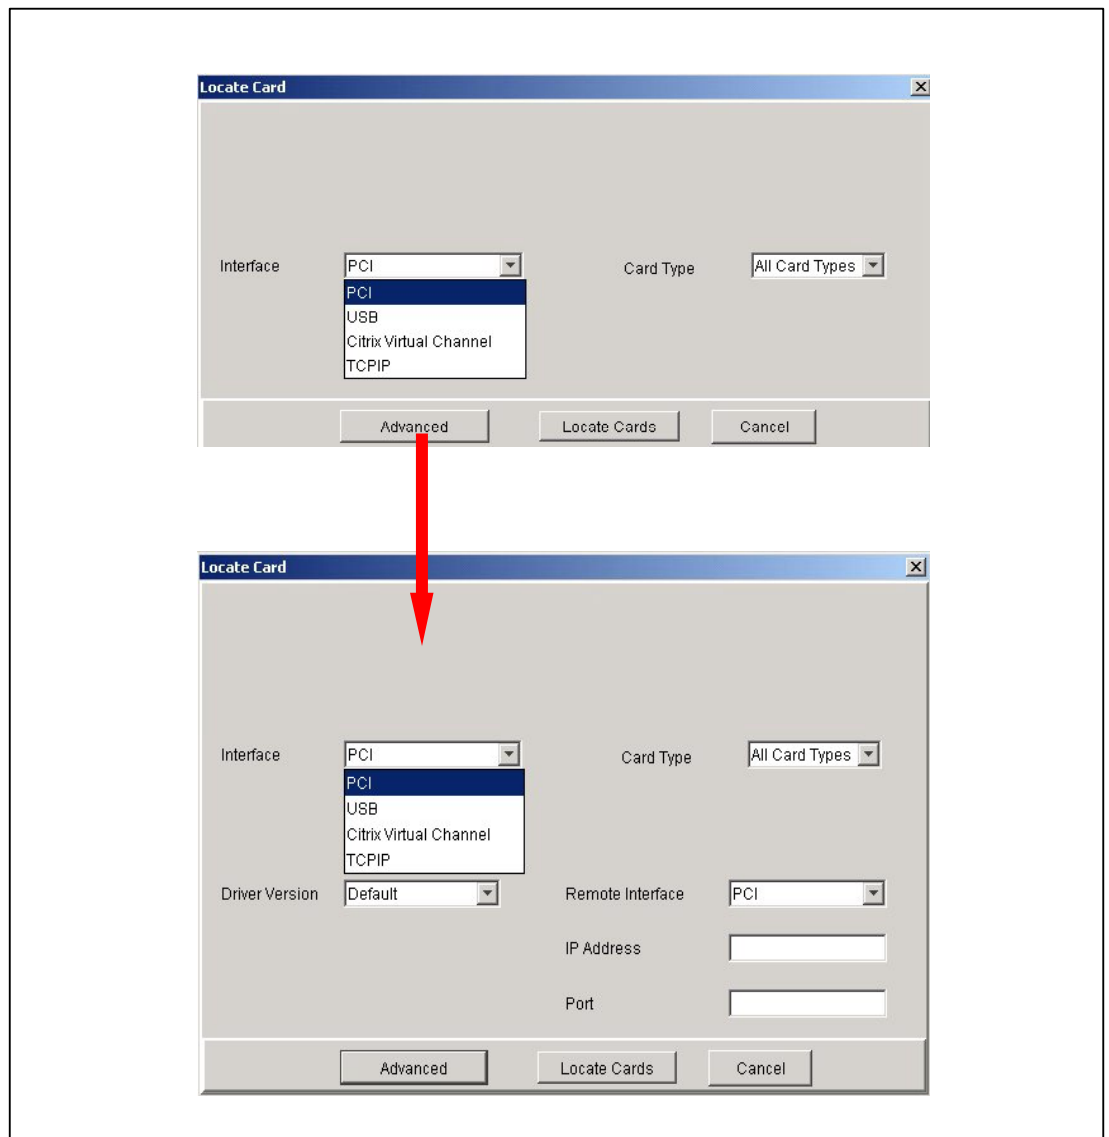

Figure 4: Dialogue box to locate cards
3. ☞ The Locate Card window is then displayed as shown in Figure 4. Select the interface type in the **Interface** box, and the card type in the **Card Type** box. Step 5 explains the purpose of these boxes in more detail.